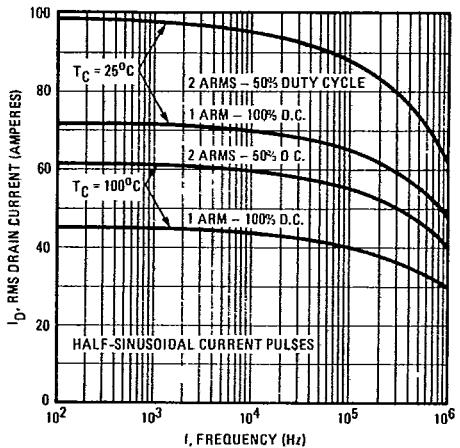

Fig. 16 – Maximum Continuous Drain Current Vs. Frequency Derating
- f) Make due allowances for drain current in high frequency applications. Refer to Figure 16.